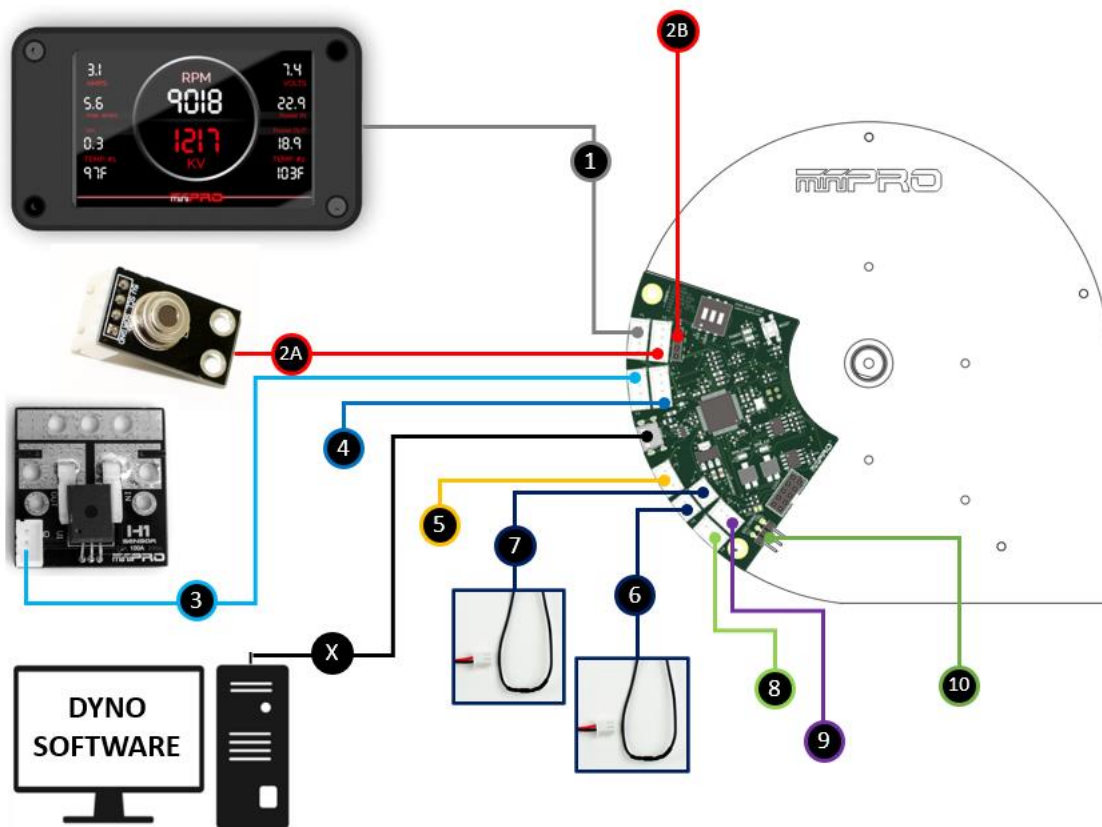

Figure 2: Dyno Controller Board V3.0 – Sensors Connection Diagram
**Warranty voided if it's not installed according to Figure 2.**